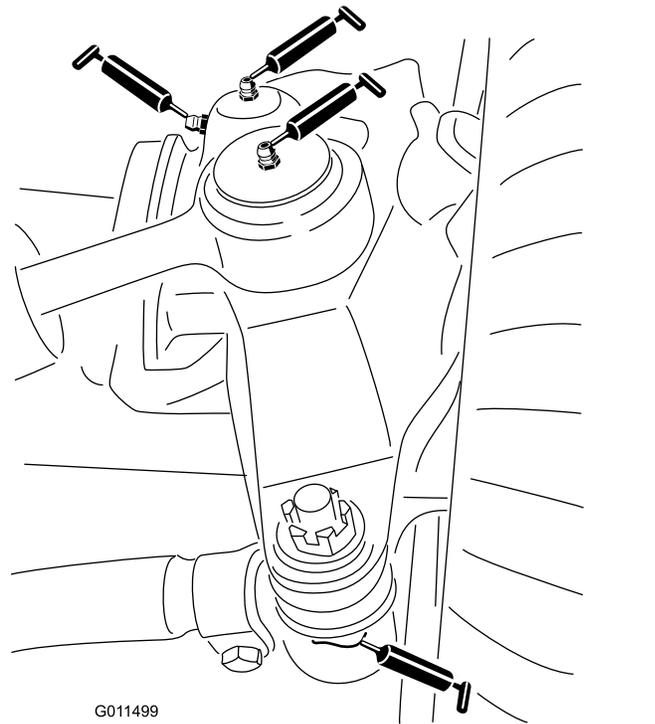

Figure 60
- 2 steering-cylinder-ball joints (Figure 60)
- 2 tie-rod-ball joints (Figure 60)
- 2 king-pin bushings (Figure 60).